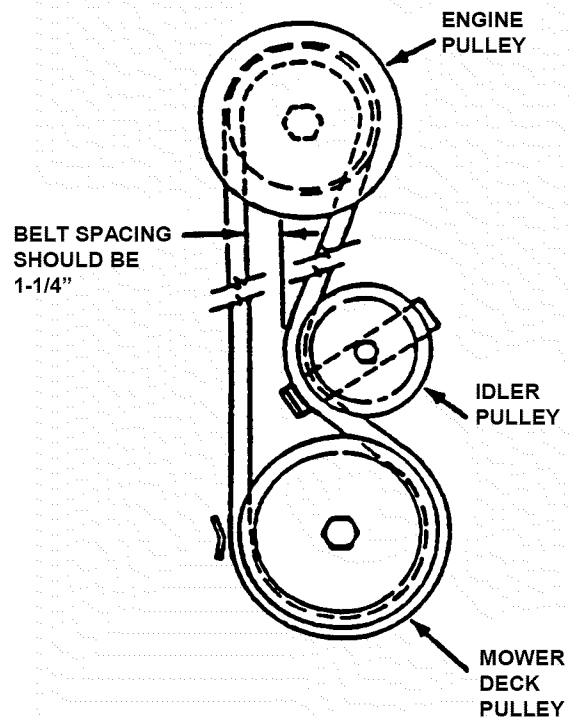

FIGURE 3.4
5. **28" and 30" Decks:** Measure the belt spacing at idler pulley. See Figure 3.4. The belt spacing should be 1 1/4" but no less 1". If the measurement is less than 1", the belt tension should be adjusted. Refer to Section "BLADE DRIVE BELT ADJUSTMENT".